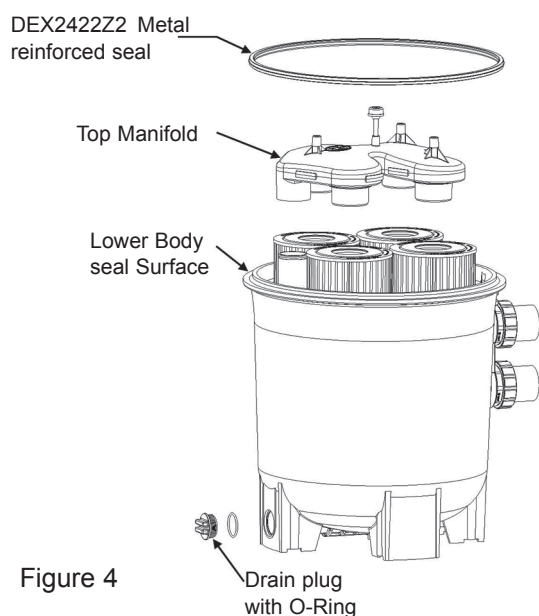
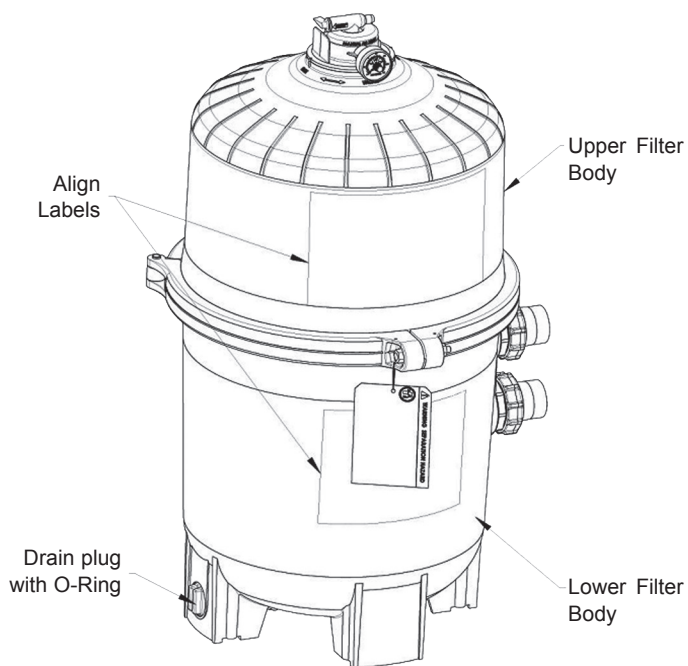

Figure 4
Figure 5
2. Close filter drain. Note: Filter plug requires an o-ring seal. (See Fig 4)
4. Remove filter drain plug (FIG 4) and drain water from filter.
1. Remove the top Manifold, which is exposed when the upper filter body is removed. (Fig 4)
2. With a clean cloth wipe the lower filter body seal surface. (Fig 4) Do not use a solvent.
1. Place the metal reinforced seal on the lower filter body (Fig 4). Place the upper filter body on the Hayward DEX2422Z2 metal reinforced seal and lower filter body in a position which allows all operation and safety labels to be clearly visible and the upper body to be centered on the lower filter body. Press down firmly and evenly to set the upper filter body. (Fig 5)
2. Replace the filter clamp around the upper and lower filter bodies. Hold the clamp ends to position the clamp on the filter bodies with the clamp ends adjacent to the safety and operation labels on the filter bodies. (Fig 5)